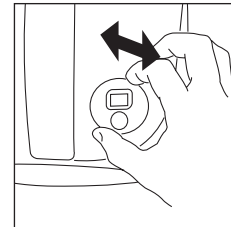

fig. 7
- Remove the timer from its compartment (fig. 7).